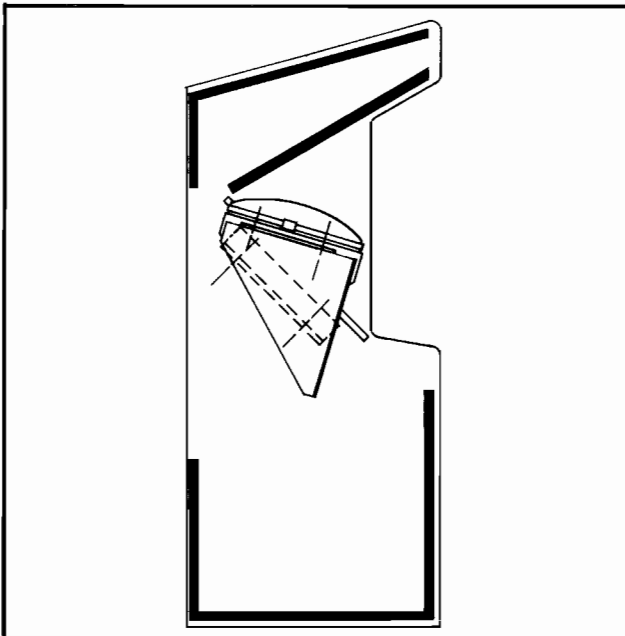

Figure 3-4 Removing the Monitor
1. Upright Model. See Figure 3-4.
tor is removed by sliding it out the front of the cabinet. See Figure 3-4.